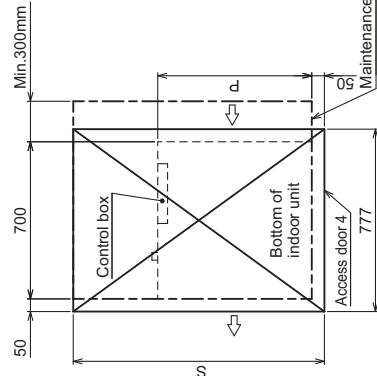

Fig.5 (Viewed from the direction of the arrow B)
- Create access door 4 below the control box and the unit as shown in Fig.5.
- Create access door 4 below the control box and the unit as shown in Fig. 5.